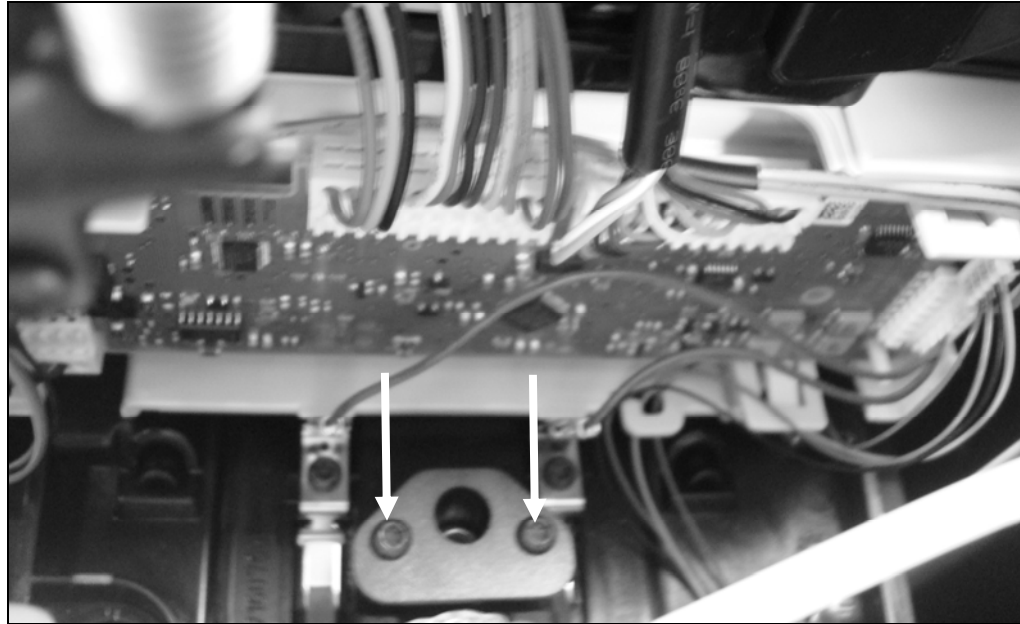

Figure 001-60: Milk Container Receptacle Screws
7. Remove the two T10 screws securing the milk container receptacle (arrows, Figure 001-60).